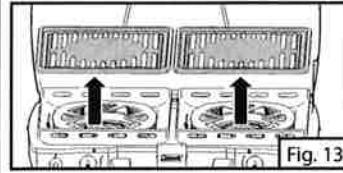
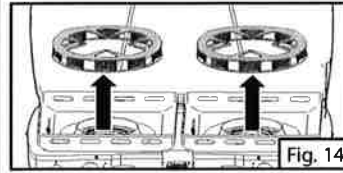
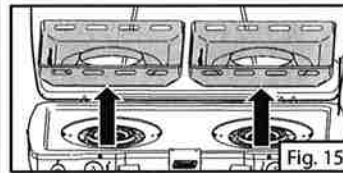

Fig. 13
Fig. 14
Fig. 15
1. Remove the cooking grates, the pan supports and the water pans out of stove. (Fig. 13, Fig. 14 and Fig. 15)
1. Remove the cooking grates and the pan supports out of stove and set aside. (Fig. 13 and Fig. 14)